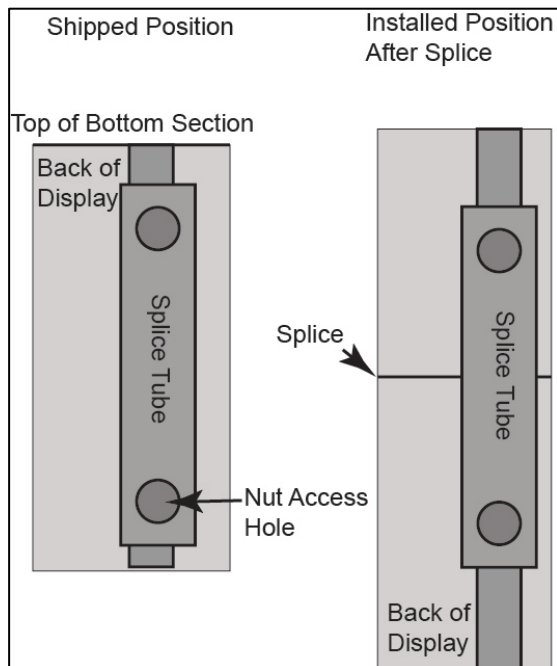

Figure 16: Vertical Splice Tube Installation
15. Loosen the nuts that hold the vertical splice tube in place. Refer to **Figure 16**.